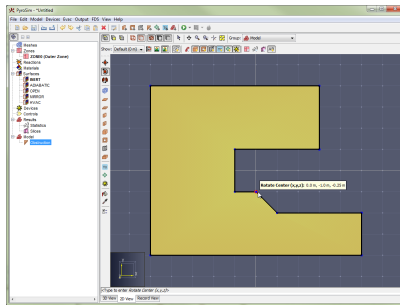

Figure 91. Click rotation center
3. Single-click to specify the rotation center (Figure 91).